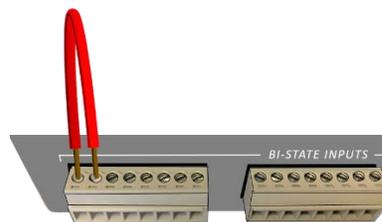

Figure 12
① NC Inputs can be tested by pulling the modular connector the Inputs are wired to. This will break the connection resulting in a change of the status icon to an alarm condition on the Status Page. Make sure the connector is removed for at least the duration of the delay time specified. Verify the correct alarm notification messages were sent to all contacts configured for the Device. Replace the modular connector. The status icon will return to its normal state and the associated alarm cleared messages will be sent to all contacts configured for the Device.
② NO Inputs can be tested by closing the Input connection with a wire jumper as in Figure 12. Make sure the jumper is in place for at least the duration of the delay time specified. The input status icon will change to Indicating an alarm condition. Verify the correct alarm notification messages were sent to all contacts configured for the Device. Remove the jumper. The status icon will return to its normal state and the associated alarm cleared messages will be sent to all contacts configured for the Device.